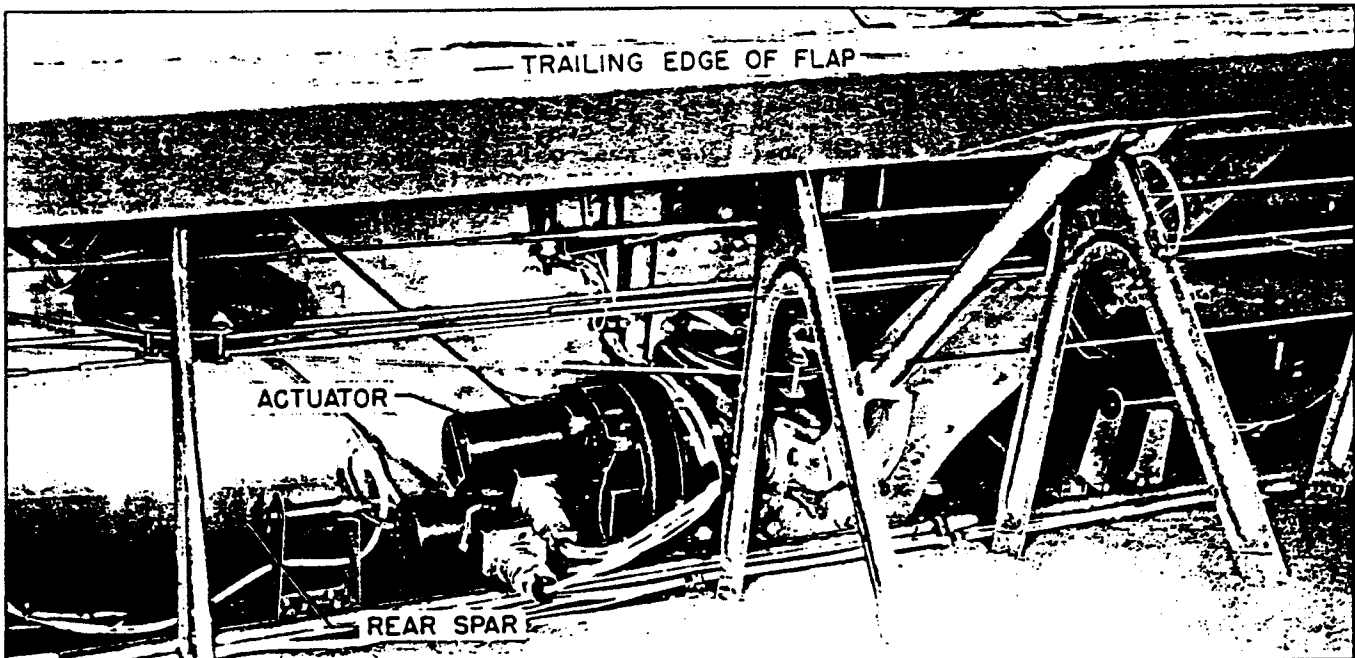

Figure 26. Intercooler Flap Actuator Mechanism (Typical)
(8) INTERCOOLERS. (See figures 26 and 27.)- Since air, heated by the turbosupercharger compressors, would result in engine detonation if received directly into the carburetors, it is necessary that the flow first be ducted through intercoolers. For this purpose four intercoolers, one for each